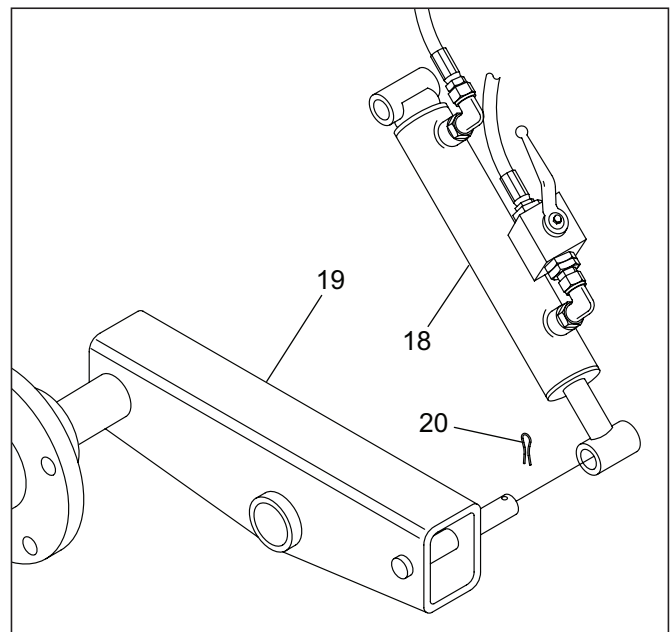

Figure 24
- Attach the hydraulic cylinder assembly (item 18) to the right pivot axle (item 19) and lock in place with a 3/16" X 1 1/2" cotter pin (item 20), as shown in Figure 24. Also attach a cylinder assembly to the left pivot axle.